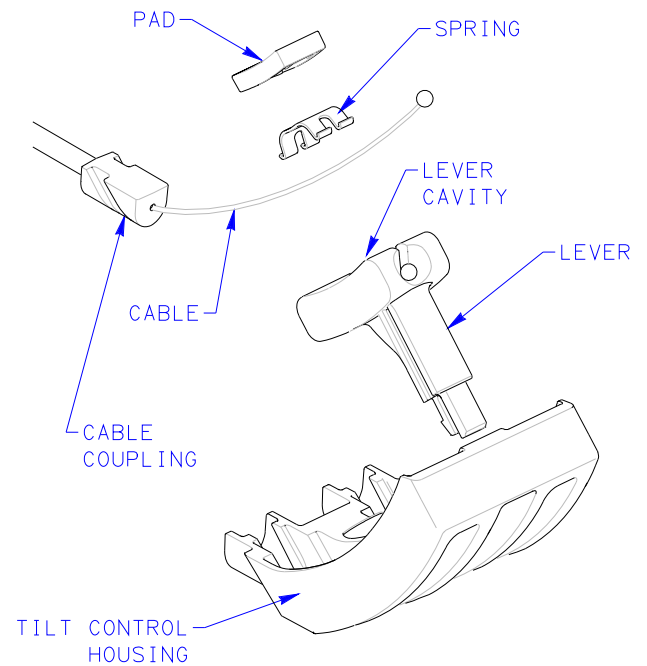

FIGURE 5
7. REMOVE AND SET ASIDE PAD AND SPRING FROM LEVER. REMOVE CABLE FROM LEVER. PROPERLY DISPOSE OF LEVER(S). SEE FIGURE 5.
SLIDE CABLE COUPLING INTO TILT CONTROL HOUSING AND SLIDE CABLE INTO LEVER. INSERT SPRING OVER CABLE INTO CAVITY OF LEVER. PLACE PAD OVER SPRING. SEE FIGURE 5.